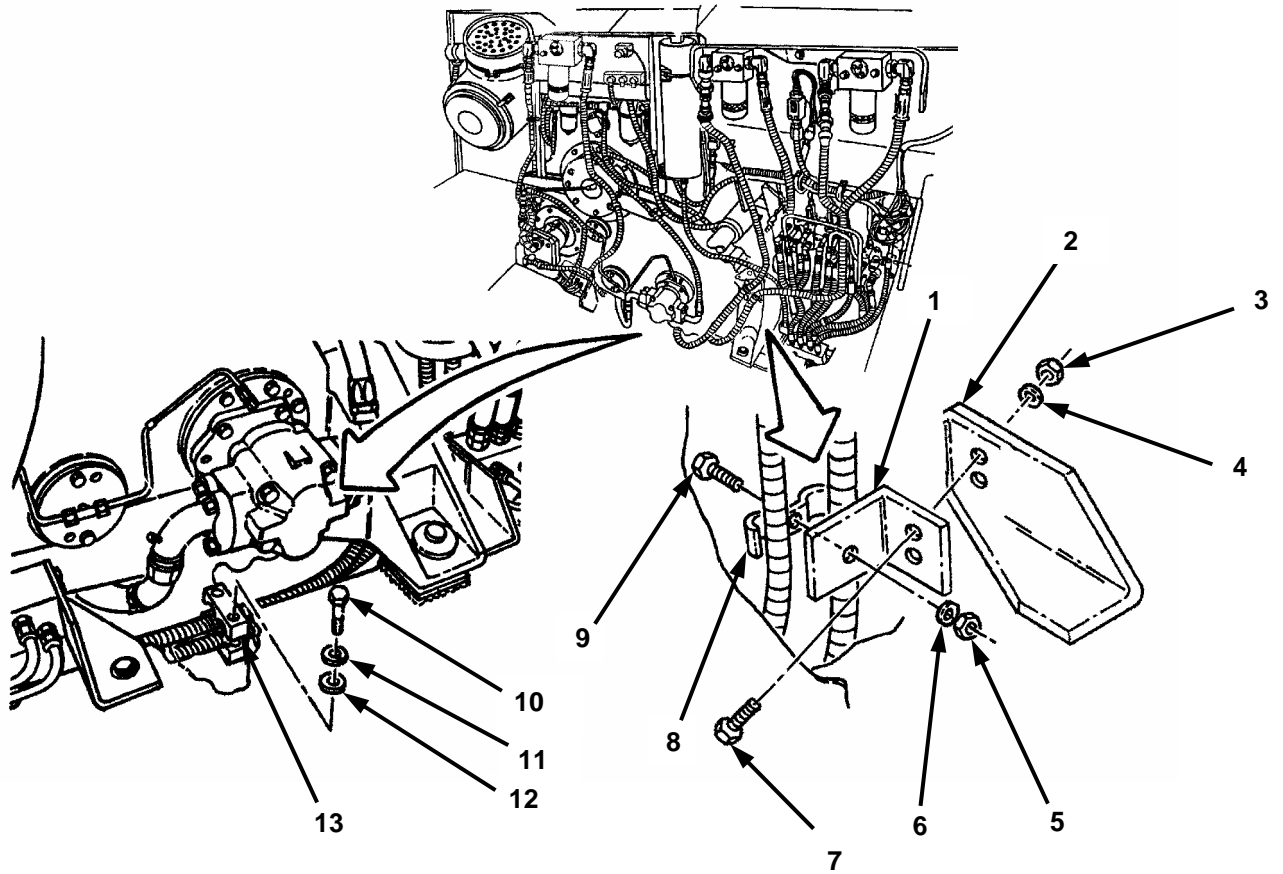

Figure 2-4. Hull Bottom Plate
Steps (5) (a), (b), and (c) below apply to Figure 2-4.
- (5) While performing TASK J and K per TM 5-2350-262-34, Power Package Replacement–Installation, perform the following steps:
- (a) Remove and discard cap screw (9), retaining strap (8), flat washer (6), and nut (5) from bracket (1).
- (b) Remove and discard two cap screws (7), flat washers (4), nuts (3), and bracket (1) from plate (2).
- (c) Remove and discard two machine bolts (10), retaining strap (13), flat washers (11), and nuts (12) from hull bottom plate.